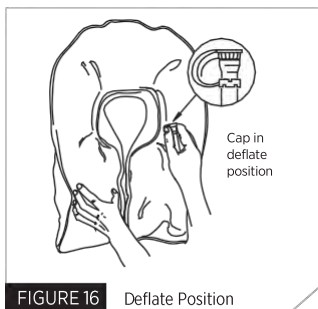
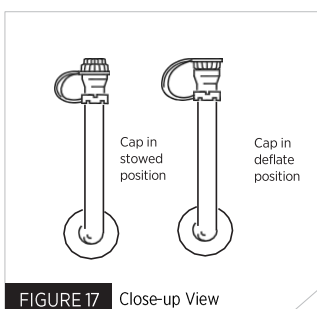

FIGURE 16 Deflate Position
FIGURE 17 Close-up View
4. Oral inflation cap is in the stowed position (Fig. 17).
To deflate the PFD, reverse the oral inflator cap and insert it into the valve. The cap will not lock in the deflate position so you must hold it in place (Fig. 16).
Gently squeeze the PFD until all air or gas has been expelled. To avoid damage do not wring or twist the PFD. Put the oral inflator cap back in its stowed position on the oral inflator (Fig. 17).
If your PFD has been used and/or the inflator mechanism replaced, always inflate through the oral tube and check that it stays inflated at least over-night. With the inverted cap in the top of the oral tube, gently squeeze the PFD until all air or gas has been expelled (Fig. 16) Do not wring or twist the PFD. Put the oral tube cap back in its stowed position on the oral tube (Fig. 17). Let the PFD dry before packing.